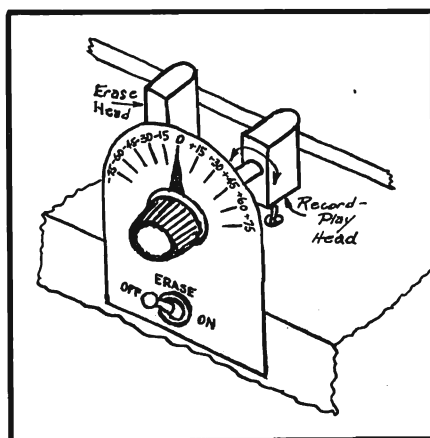

Fig. 1. Diagram of the basic arrangement of the tiltable head. It would be preferable if the head were mounted closer to the indicating scale, however.
1. Mount the record-playback head on a pivot along with an angular pointer or indicator. *Figure 1* is a suggested plan, although the head should be closer to its mount.